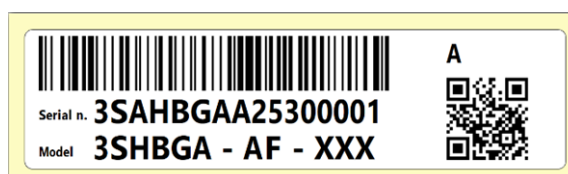

Figure 5: example of frame label.
2. Frame label: placed on the side of the frame and containing the product serial number, the barcode, a QR code, the current class, and the product code (Figure 5).